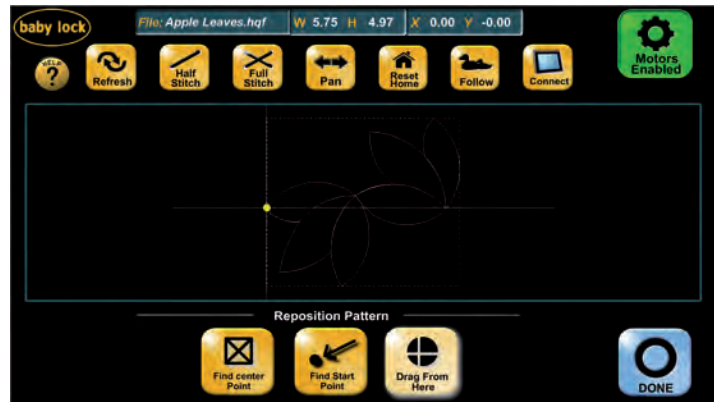

Figure 34
2. Watch the screen while moving the machine and position the crosshairs on the point that is to be the reference for positioning (i.e., a corner of the pattern block, or a specific point on the pattern that needs to match up with a certain spot on the quilt, such as the tip of a leaf shown in Figure 34). Use the “Pan/Zoom” feature to reposition the pattern on the screen, if needed.
3. Press the “Drag From Here” button. The icon will change to “Move Pattern” and turn green (Figure 34).